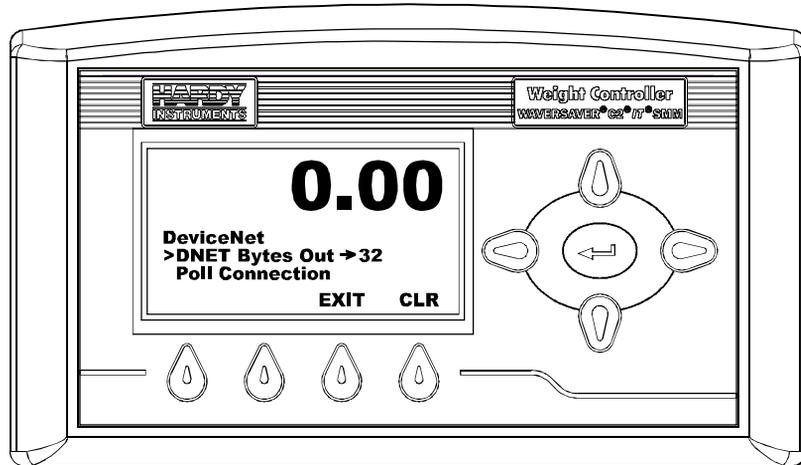

FIG. 123 DEVICENET MENU/SELECTING DNET BYTES OUT
- Step 16. Press the Down Arrow button until the cursor is in front of “DNET Bytes Out”. (See Fig. 123) The present DNET Bytes Out setting is displayed.